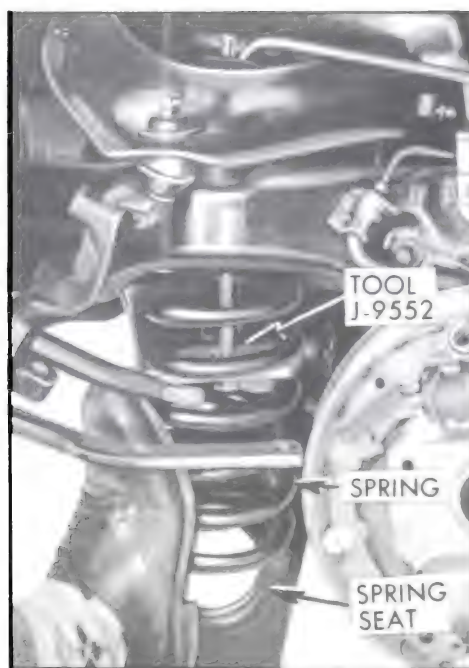

Figure 7-23—Pushing Spring on Lower Control Arm Seat
6. Force the spring on its seat in the lower control arm as shown in Figure 7-23. Remove tool.